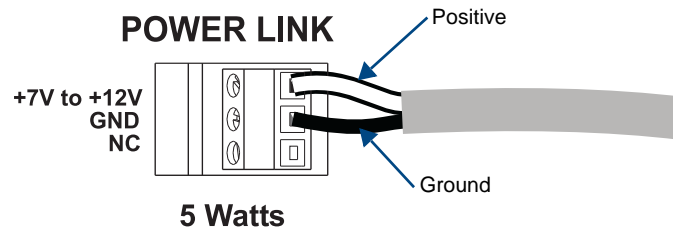

FIG. 7 Remove power connector, wire it, and replace
3. Insert the power cable ground and positive wires into the slots (FIG. 7) and tighten the screws.